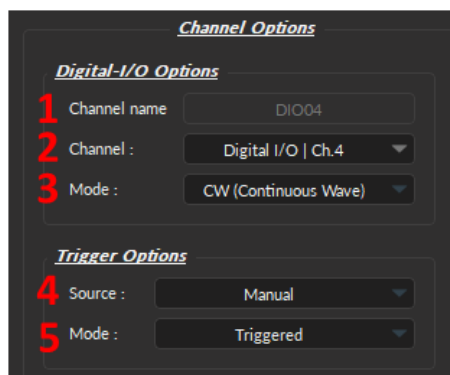

Figure 5.14: *Channel(s) Configuration*, Digital I/O Channel Options
1. The **Channel Name** (Fig. 5.14, 1) allows the user to specify a label for each channel.
2. The **Channel** (Fig. 5.14, 2) identifies the channels available to create a Digital I/O. The channel can be changed by selecting a new one from the drop-down list. Each numbered channel on the physical console corresponds to the same number of digital channels within the software.
3. The **Mode** (Fig. 5.14, 3) identifies the type of signal sent (for output channels) or the way the signal is measured (for input channels). Three modes are available:
1. The **Source** trigger option (Fig. 5.14, 4) allows the choice of a **Manual Trigger** (activated by a user) or an **Input** trigger, coming from a **Digital I/O** channel set in input mode.
2. The **Mode** (Fig. 5.14, 5) defines how the trigger activates a sequence. This includes input sequences, which can be triggered/gated by an outside source.
The parameters contained in the **Sequence Options** depend on the **Channel Mode** (selected in **Channel Options**, Fig. 5.14), as following: